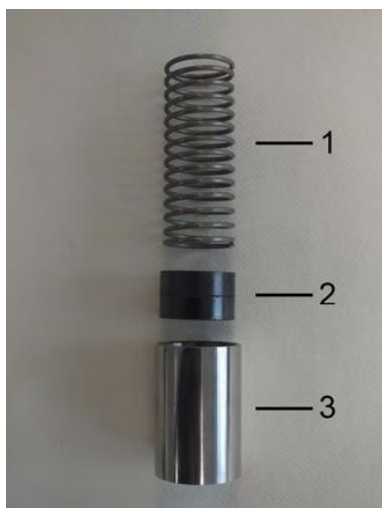

Fig. 59: Inner parts
- 8. ►** Insert spring (Fig. 59/1) with magnets (Fig. 59/2) into the float (Fig. 59/3) ensuring proper magnetic pole orientation (north pole toward device outlet)